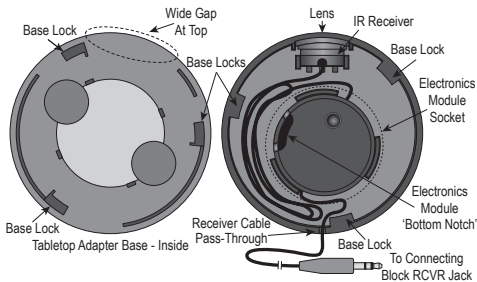
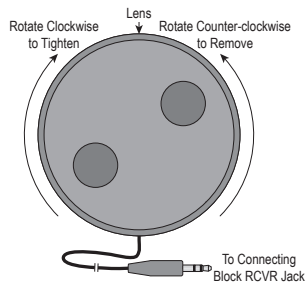

Figure 7 - Tabletop Adapter - Insert Electronics Module
Figure 8 - Tabletop Adapter - Remove/Tighten Base
1. Remove the Tabletop Adapter Base by rotating it counter-clockwise as shown in **Figure 8**.
4. With the 'bottom notch' of the Electronics Module facing you, carefully slide the module onto the post in the Electronics Module Socket as shown in **Figure 7**.
5. Carefully wrap the 8" Receiver Cable around the Electronics Module and extend the plug end of the Receiver Cable out of the Tabletop Adapter case via the Receiver Cable Pass Through as shown in **Figure 7**.
6. Align the Adapter Base to the Adapter Top with the 'wide gap' aligned at the top with the IR Receiver as shown in **Figure 7**. Tighten the base to the top as shown in **Figure 8**.